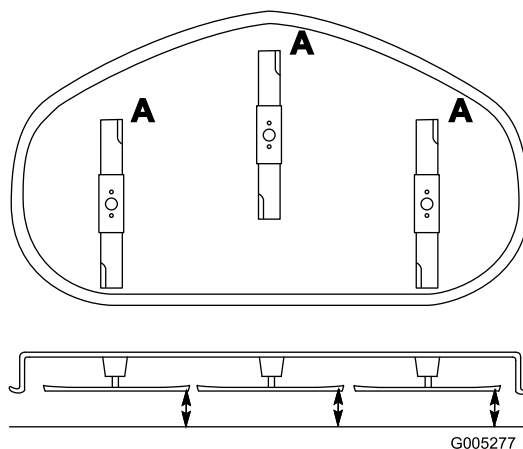

Figure 37
1. Rotate the blades until the ends face forward and backward (Figure 37). Measure from a level surface to the cutting edge, position **A**, of the blades (Figure 37). Note this dimension.